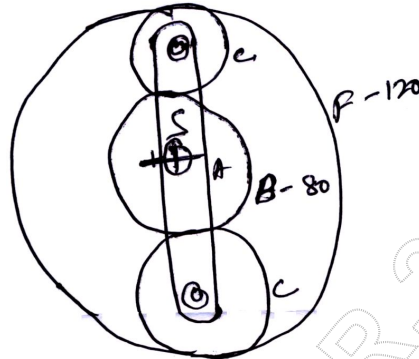

Fig.Q4(b)
- b. The Fig.Q4(b) shows an epicyclic gear train in which arm 'A' is fixed to the shaft 'S', 'B' is freely rotating on 'S' and 'F' is separately driven. 'A' receives 10 KW at 200 rpm and 'F' is driven in the same direction at 100 rpm. Determine: